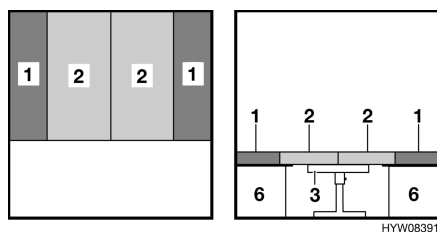

Fig. 34 After conversion
- Place the back cushions (Fig. 34,1) against the exterior wall. Observe the wedged form.
- Push the two seat cushions (Fig. 34,2) between the back cushions.